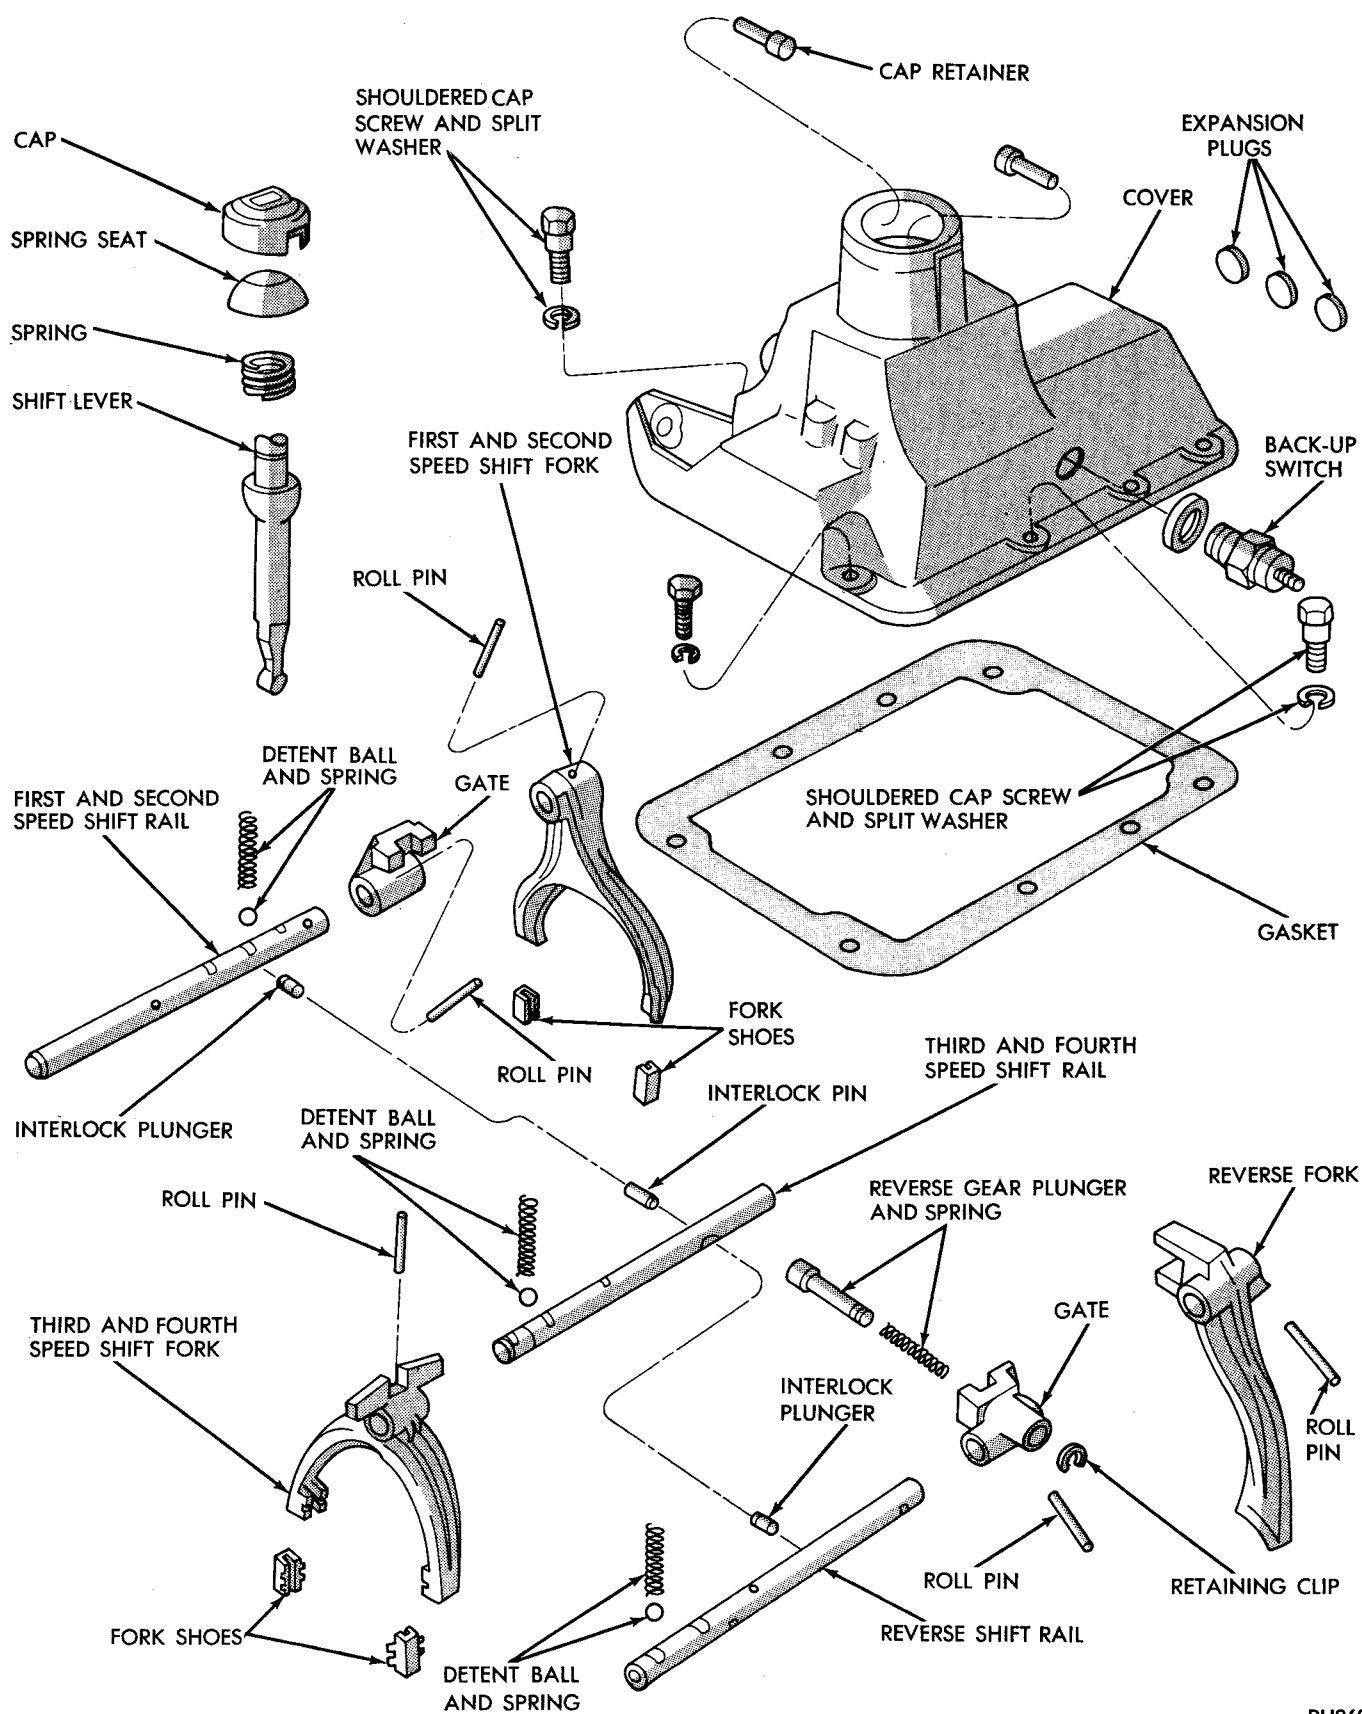

Fig. 8—Cover and Shift Fork (Exploded View)
(2) Push shift rail out through the front to force expansion plug out of cover. Cover detent ball access hole in cover with cloth to prevent ball and spring from flying as rail clears hole. Remove rail, fork and gate.
(3) Remove third and fourth speed rails in the same manner, then remove reverse rail.
(4) Compress reverse gear plunger (Fig. 8) and remove retaining clip. Remove plunger and spring from gate.